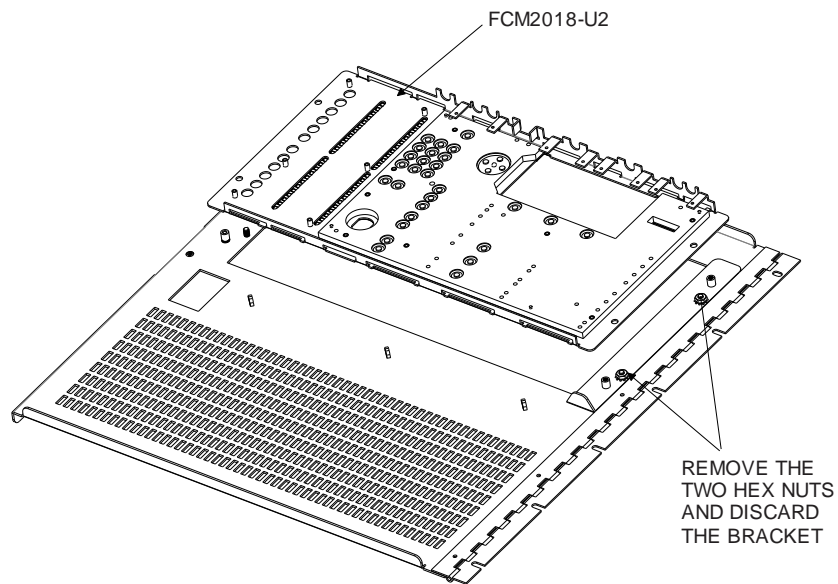

Figure 7: Mounting the FCM2018-U2 on the Inner Door
8. For FS20 panels, install the FCM2018-U2/-U3, FCM2019-U2/-U3 into the inner door as shown in Figure 7.